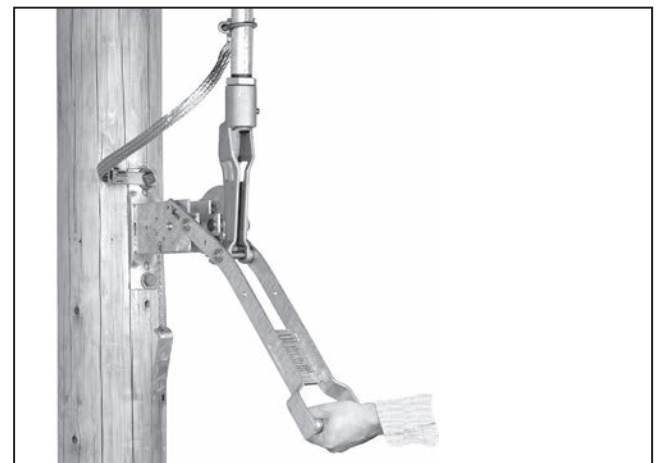

Figure 19. Verifying the slack has been taken up in the operating linkage.
STEP 18. Move the operating handle slowly to the closed position. See Figure 19. A definite resistance should be felt at the end of the stroke, indicating all slack in the operating linkage has been taken up.